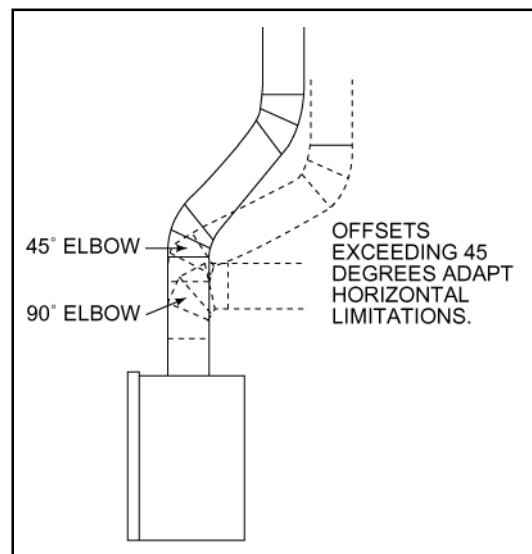

Figure 5 - Using Elbows
- c. **Using Elbows.** Elbows exceeding 45° from the vertical shall be considered horizontal and therefore adapt horizontal run limitations. See Figure 5.